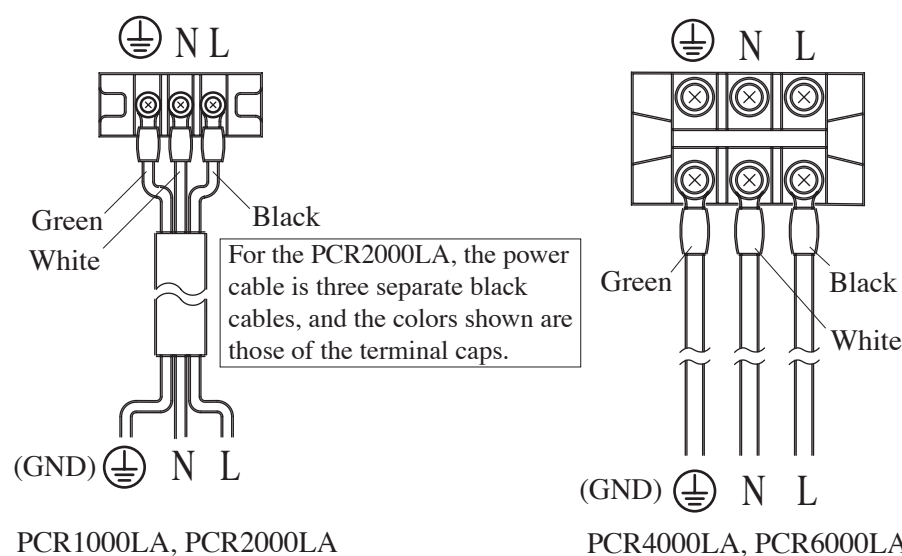

Fig. 2-7 Connecting the Input Power Cable(s) to the INPUT Terminal Board
Using the supplied cable (provided as an input power cable), connect GND on the INPUT terminal board of the AC power supply to the dedicated ground terminal (Fig. 2-7). For model PCR500LA, use the dedicated input power cable with the plug and receptacle. Connect the three-pronged plug securely.
1. Remove the terminal box cover from the rear of the power supply, and connect the provided input power cable to the INPUT terminal board as shown in Fig. 2-7.
The switchboard end of the input power cable is not provided with terminals. For termination, attach a crimp-style terminal to each wire that meets the terminal screws of the switchboard to be connected, and then securely connect the wires to the terminal screws (Fig. 2-7). Connection must be performed by qualified personnel.